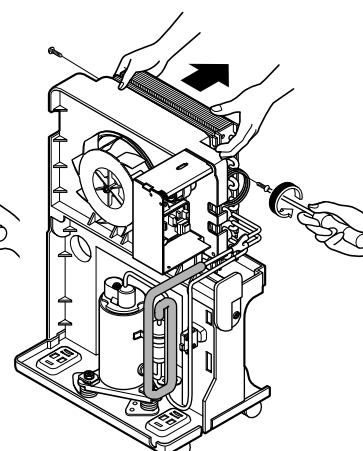

Figure 19
6. Remove the H/E assembly from the shroud. (See Figure 19)